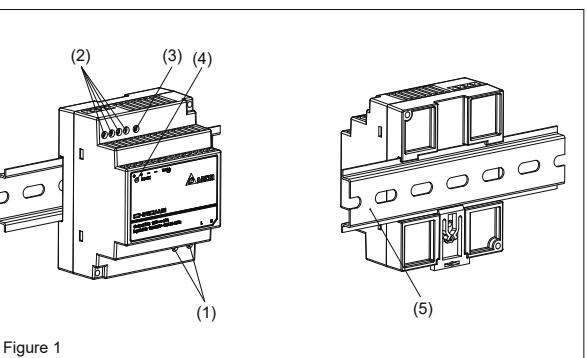
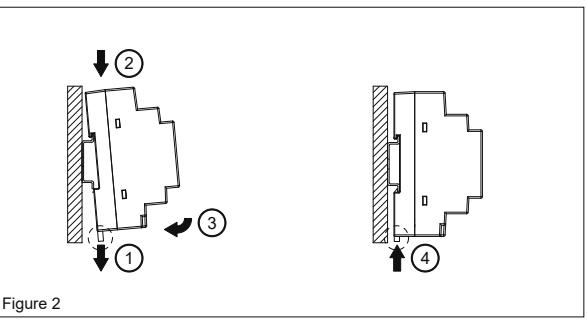
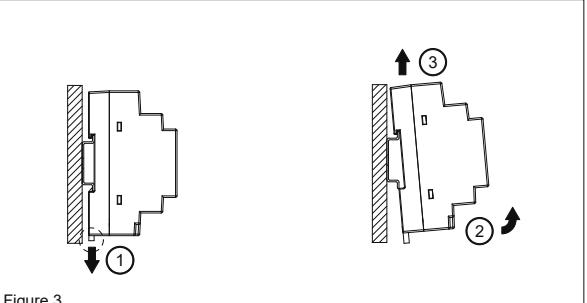
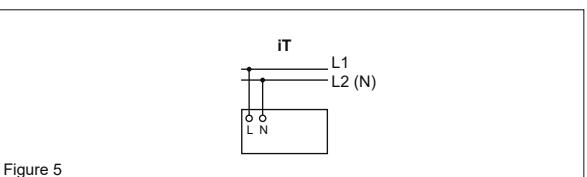

Figure 1
Figure 2
Figure 3
Figure 5
2. Device description (Fig. 1)
3. Mounting and dismounting (Fig. 2, Fig. 3)
Each device is delivered ready to install. Snap on the DIN rail as shown in Fig. 2:
5. To uninstall, pull the unit's DIN rail latch OUT as shown in Fig. 3. Tilt the bottom part of the unit out. Push the unit up and pull out from the DIN rail.
4.1. Input connection (Fig. 1, Fig. 5)
Use L and N connections of input terminal connector (see Fig. 1 (1)) to establish the 100-240Vac connection.
4.2. Output connection (Fig. 1, Fig. 2)
Use the "+" and "-" screw connections to establish the 12Vdc connection. The output provides 12Vdc. The output voltage can be adjusted from 11.5 to 14Vdc on the potentiometer. The green LED DC OK displays correct function of the output (Fig. 1 (4)). The device has a short circuit and overload protection and an over voltage protection limited to < 17.4Vdc.